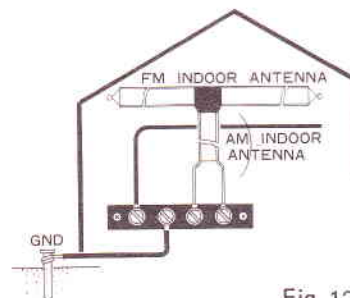

Fig. 12
- Use the accessory T-type indoor antenna when using Model SX-990 within a wooden building near the FM radio station. Connect the free end of the vertical section of the antenna to the FM antenna terminals (27) as shown in Fig. 12.
- If good radio reception cannot be attained with the AM ferrite antenna (24), use the accessory AM lead wire antenna. Connect one end of the antenna to the AM antenna terminal (25), and expand the wire along a wall of the room. (See Fig. 12.)